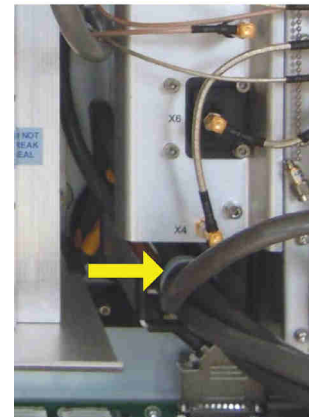

Fig. 7.42 Cable strap
- 9 In the cable tray at the bottom of the Waveguide Assy, cut the cable strap holding the cables to the assy. See Fig. 7.42 \(p. 145\).